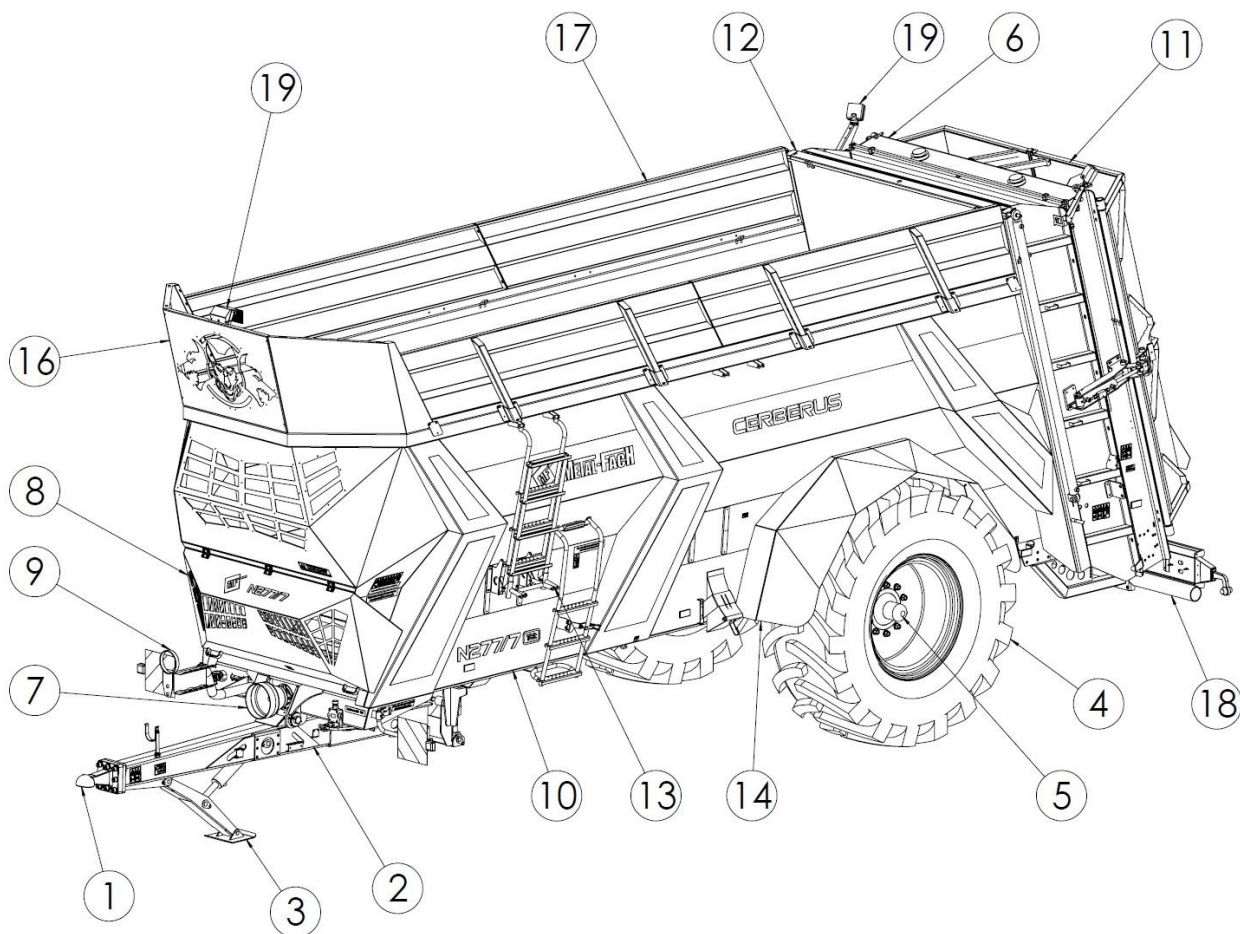

Fig. 7. General design of the manure spreader:
The components of the spreader are shown in Figure 7. The main structural components include a monocoque body (10) with a rigid single-axle wheelset (5). A sprung hitch equipped with a ball drawbar's eye (1) is used for connection with the tractor's lower hitch. The hydraulic parking jack (3) is attached to the drawbar to support the spreader, when it is not connected to the tractor, and to adjust the drawbar's height, during coupling.